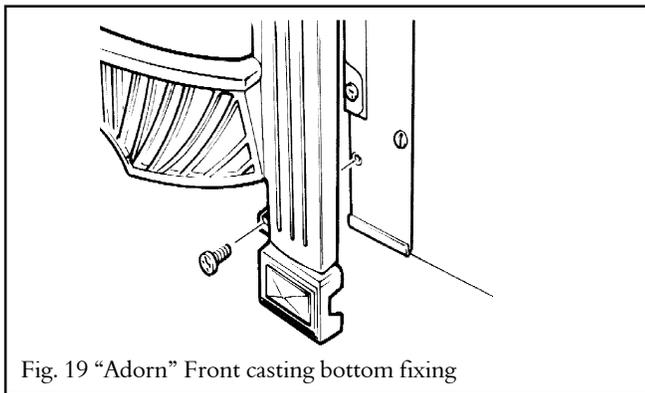

Fig. 19 “Adorn” Front casting bottom fixing
**12.3** Swing the bottom control linking bar towards the center of the fire to clear the front casting/surround. Slide the front casting/surround sideways, if necessary, to align the bottom fixing holes with those in the convection box. Fix the bottom of the casting/surround to the convection box with two screws (See figure 19 or 20).